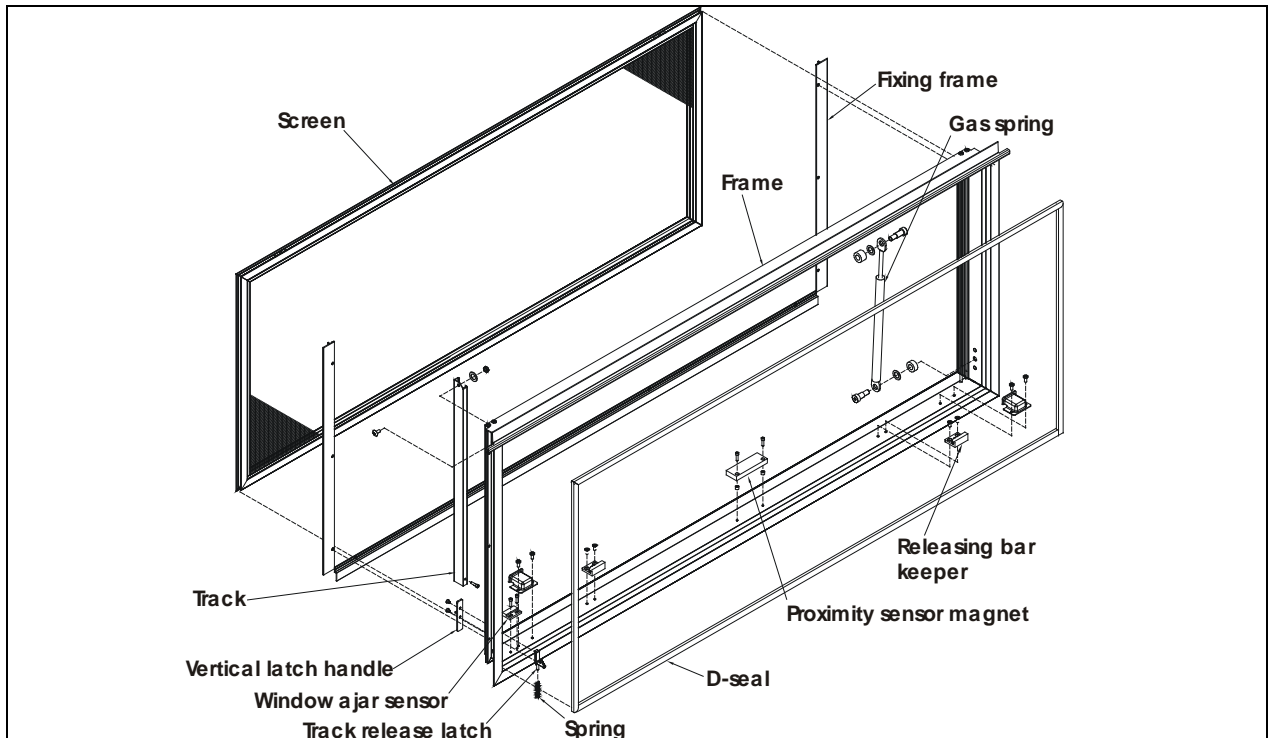

FIGURE 97: ELECTRIC AWNING WINDOW EXPLODED VIEW (FRAME) 18586
4. Loosen the set screws #5 (Figure 97) (rotate the arm to get to the second set screw) and disengage the swiveling arm from the motor shaft extension.